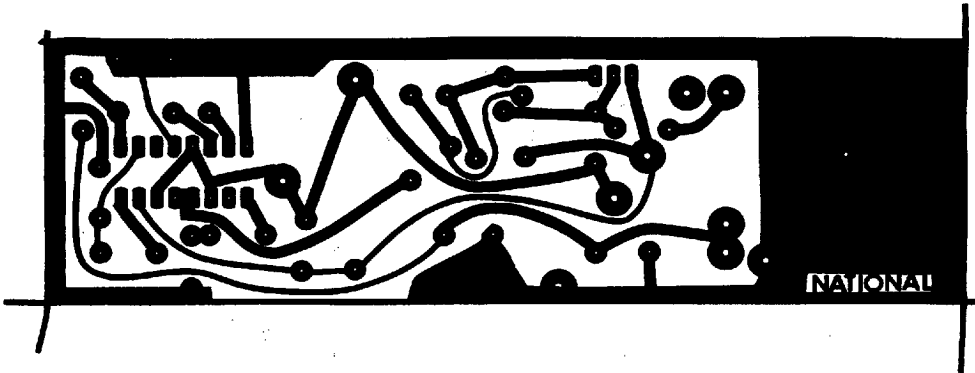

FIGURE 16. 5V, 1 Amp Switching Regulator, Foil Side
*Figure 16* and *17* show a PC board layout and stuffing diagram for the 5V, 1A regulator of *Figure 15*. The regulator's performance is listed in Table I.